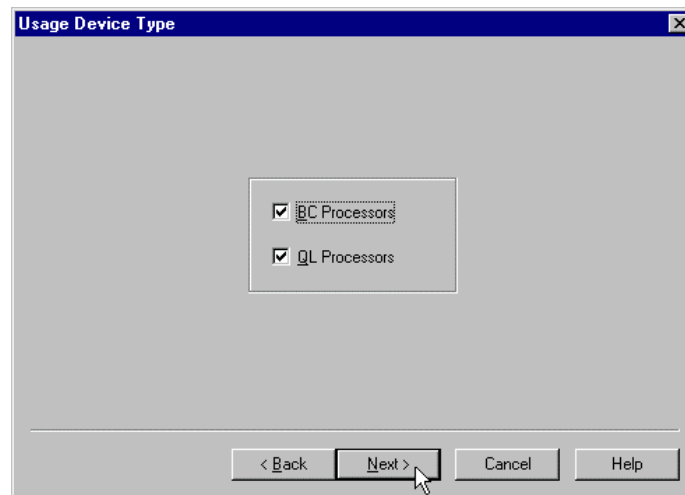

Figure 109 - Usage Device Type dialog box
5. Choose the types of devices to be included in the report in the **USAGE DEVICE TYPE** dialog box. At least one device must be chosen. Choose **NEXT** to continue. See Figure 109.
5. Choose the types of devices to be cleared from the USAGE DATABASE in the USAGE DEVICE TYPE dialog box. Choose at least one device. Choose **FINISH** to continue. See Figure 109.